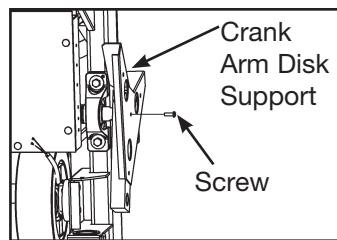

Figure 6
B. Using a Phillips screwdriver, remove the screw securing each crank arm disk support. See Figure 6.
- B. Using a Phillips head screwdriver, attach the screw securing each crank arm disk support in place. See Figure 6.